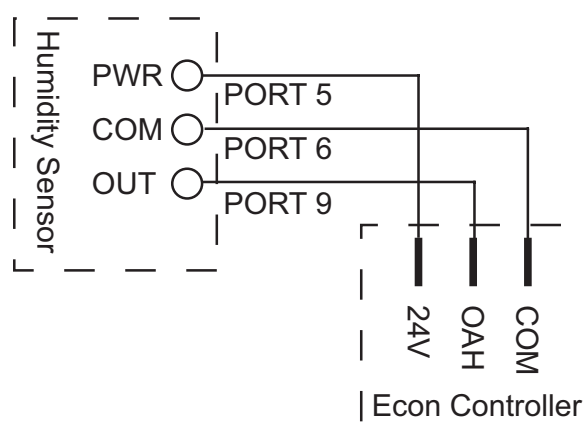

FIGURE 2 - WIRING FOR OUTDOOR AIR HUMIDITY
7. Attach wiring that came in this kit between Economizer controller and humidity sensor. See Figure 2.